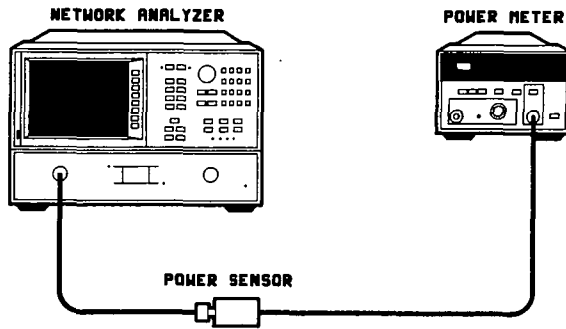

Figure 12. Power Level Test Setup
2. Connect the power sensor to port 1 of the analyzer as shown in Figure 12.